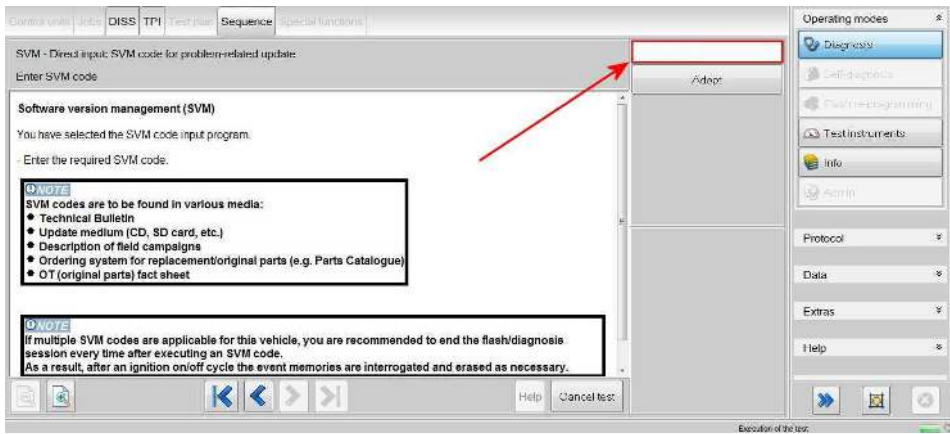

Figure 2
2. On the next screen enter the SVM code 4V0PLZDC01 and select *Adopt* (Figure 2).
7. On the next screen enter the SVM code 4V0PLZDC02 and select *Adopt* (Refer back to Figure 2)